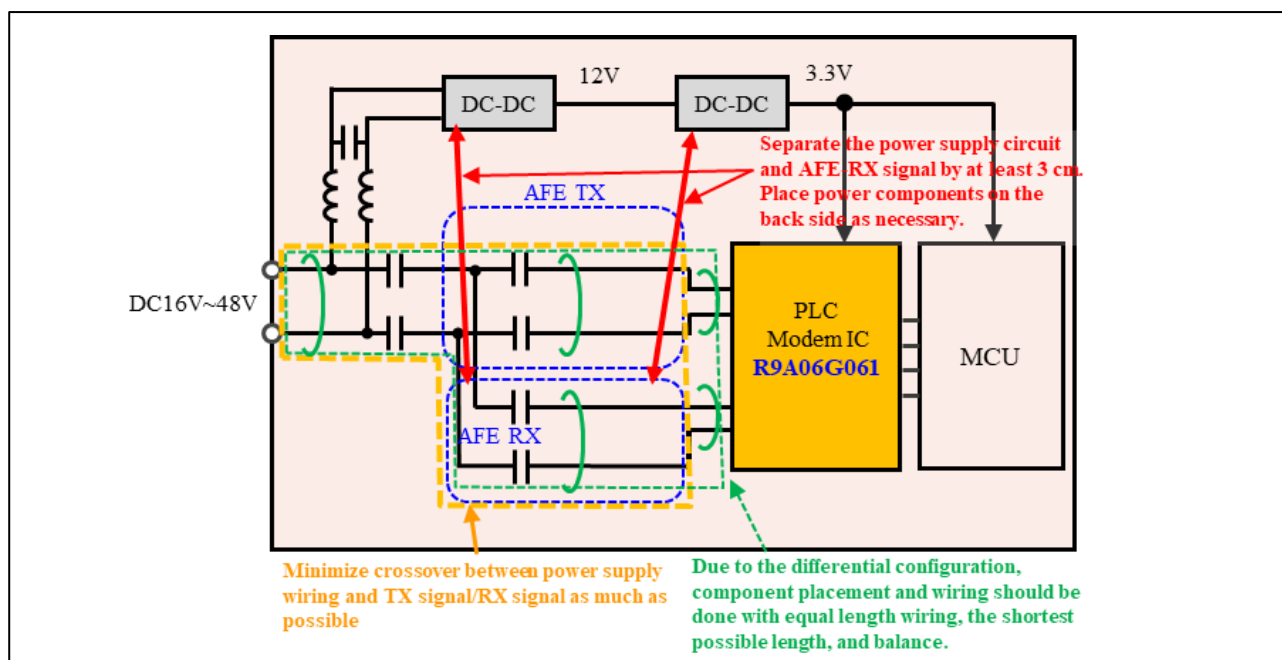

Figure 3-3 Cautions on PCB layout of CPX drive AFE circuit
- Figure 3-3 shows cautions for the PCB layout of the CPX drive AFE circuit.
- Since the TX and RX signal lines of the R9A06G061-DC IN/PLC signal terminal are differential signals, please arrange and wire the components with equal length wiring, as short as possible, and with balance in mind. However, if there is a risk of interference with the power circuit, give priority to increasing the distance (at least 3 cm) between the RX signal line and the power circuit. (See Figure 3-3)